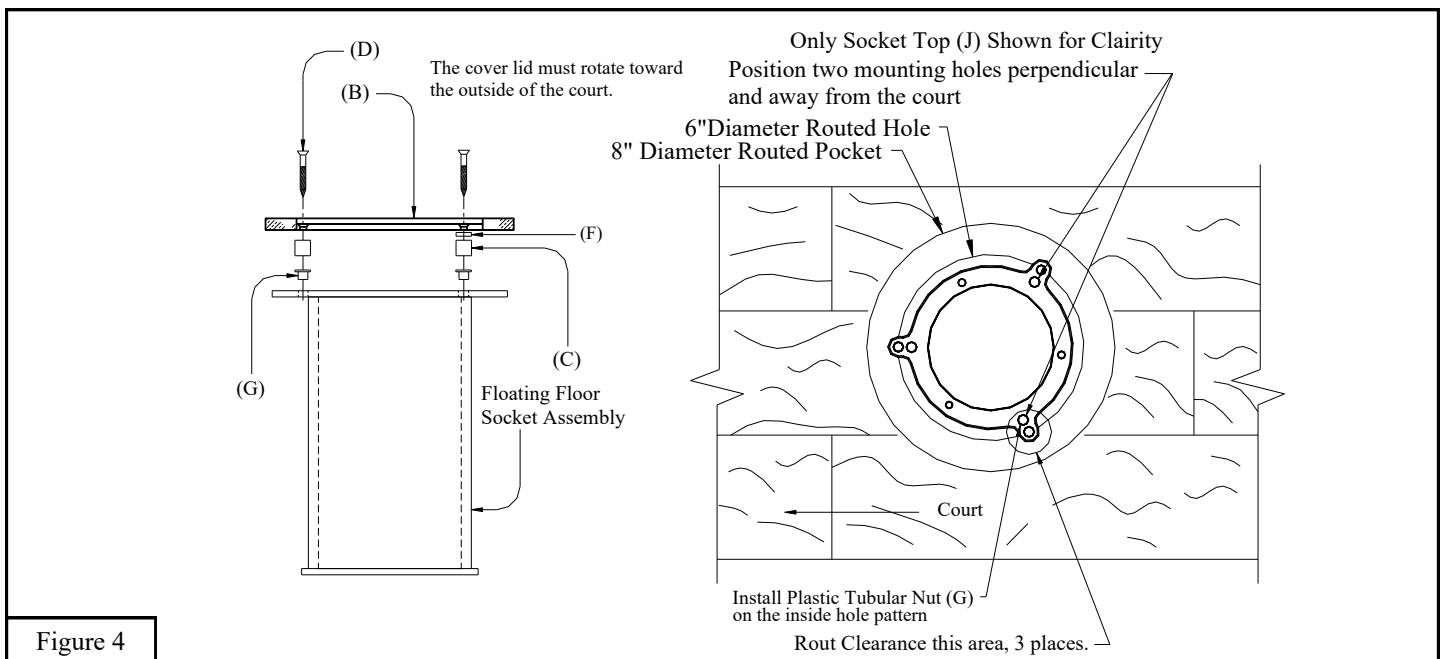

Figure 4
provided. Make sure to rotate *Chrome Floor Plate* (B) so two mounting holes are positioned perpendicular and away from the court to install *Spacers* (F) in the two hole locations. See Fig 4.
See Fig 4.